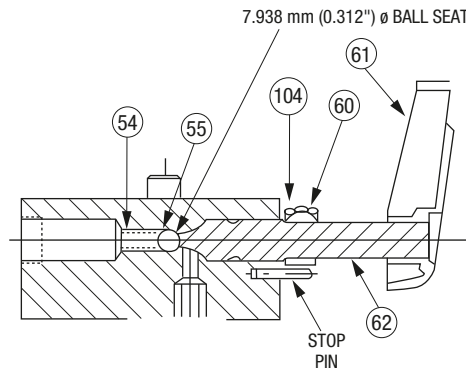
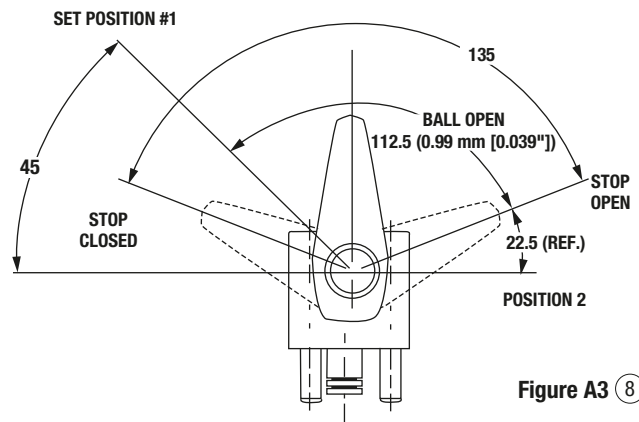

Figure A2 ⑧
Figure A3 ⑧
Manual control valve needs adjustment or repair.	See Hydraulic Schematic (8) and refer to Figures A2 and A3 in the Repairs section of this manual.
The manual control valve needs to be adjusted.	See Manual Release/Automatic Release Valve Handle Setting, Figure A3 in the Repairs section of this manual.
Check ball does not seat properly.	See Manual Release/Automatic Release Valve Handle Setting, Figure A2, and Ball Seat Refinishing, Figure B4 in the Repairs section of this manual.
The manual control valve needs to be adjusted.	Adjust the handle. See Manual Release/Automatic Release Valve Handle Setting, Figure A3 in the Repairs section of this manual.
Manual control valve set incorrectly.	See Hydraulic Schematic (8) and refer to Figures A2 and A3 in the Repairs section of this manual.
Refer to Figures A2 and A3. Thread in the shaft (62) until it just touches the check ball (55) (in its spring-loaded closed position). Slide collar (104) on the shaft. Position the handle (61) at the location "Position 1" (Figure A3), with the other surface of the handle flush with the end of the shaft. Lock in place. Rotate the handle to "Position 2" (Figure A3). Slide the collar toward the valve body until it contacts the 15.9 mm (5/8") diameter portion of the control shaft. Rotate the lock collar clockwise until it touches the stop pin, and lock in place.